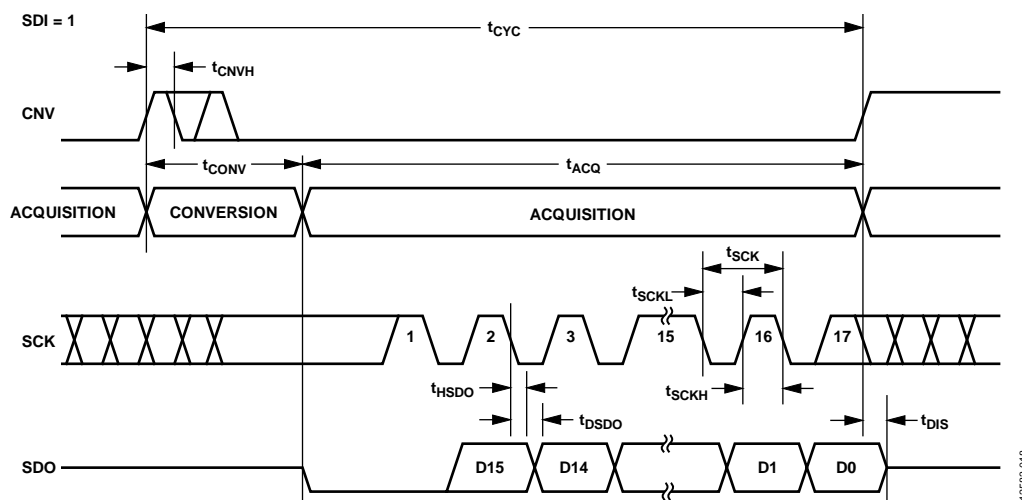
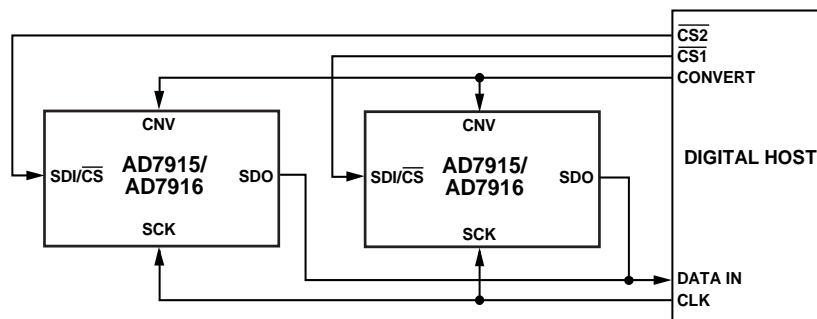

Figure 37. 3-Wire $\overline{\text{CS}}$ Mode with Busy Indicator Serial Interface Timing (SDI High)
Figure 38. $\overline{\text{CS}}$ Mode Without Busy Indicator, 4-Wire Connection Diagram
- in $\overline{\text{CS}}$ mode if CNV or SDI is low when the ADC conversion ends (see Figure 38 and Figure 42).
The connection diagram is shown in Figure 37, and the corresponding timing is given in Figure 38.